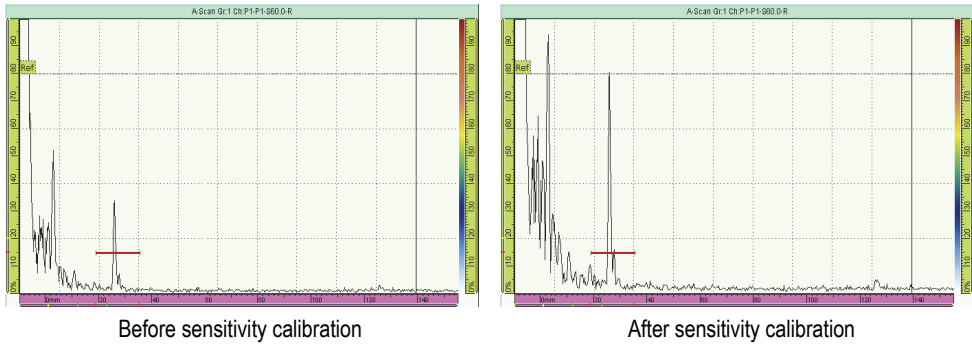

Figure 5-13 Reference reflector signal before and after sensitivity calibration
3. Select **UT Settings > Advanced > Ref. Amplitude**, and then enter the desired reference amplitude value (80 % for the example in Figure 5-13 on page 129).
Figure 5-13 on page 129 shows the reference reflector signal before and after using the **Set to XX.X%** command.